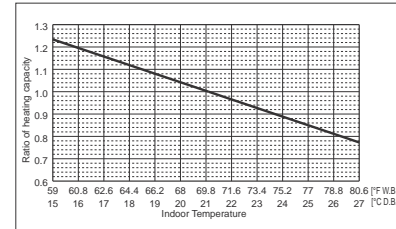

Figure 4 Indoor unit temperature correction
1.00 (Refer to Figure 4)
0.92 (Refer to Figure 4)